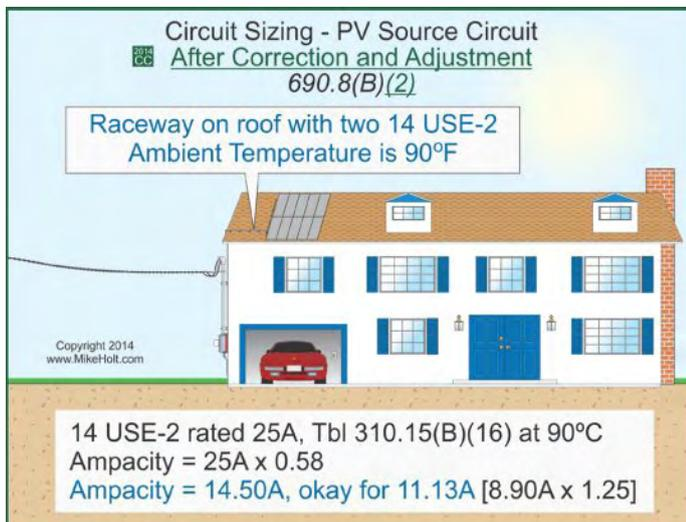

Figure 690-46
**Example:** What's the conductor ampacity after temperature correction for two current-carrying size 14 RHH/RHW-2/USE-2 or PV wires rated 90°C in a raceway or cable on the roof, where the ambient temperature is 90°F with 60°F added in accordance with Table 310.15(B)(3)(c), supplying modules having a nameplate  $I_{sc}$  rating of 8.90A? Figure 690-46
**Conductor Ampacity = Table 310.15(B)(16) Ampacity at 90°C Column x Temperature Correction**